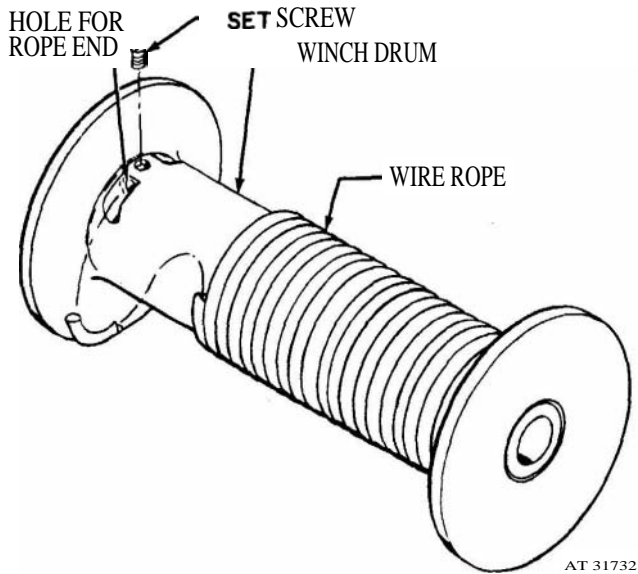

Figure 3-44. Wire rope installation.
(1) Attach wire rope (fig 3-44) to the winch drum by inserting wire rope into hole in winch drum and tightening setscrew.